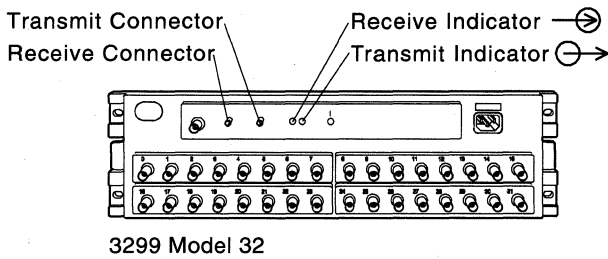

Figure 2-32. 3299 Model 32 Transmit/Receive Identification
**Step 10** See Figure 2-32 on page 2-40 for indicator identifications.